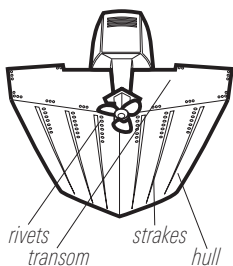

Figure 8
- The best way to locate turbulence-free water is to view the transom while the boat is moving. This method is recommended if maximum high-speed operation is a high priority. If this is not possible, select a location on the transom where the hull forward of this location is smooth, flat and free of protrusions or ribs (Figure 8).